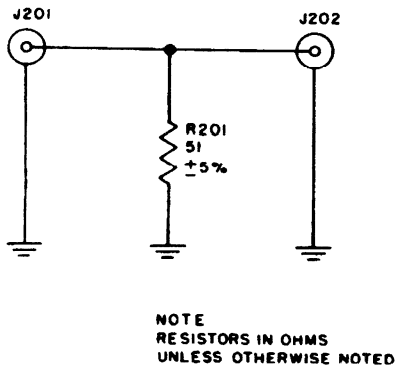

Figure 2-15. Impedance Matching Unit CU-406/URM-25F Simplified Schematic
**12. IMPEDANCE MATCHING NETWORK CU-406/URM-25F.** (See figure 2-15.)